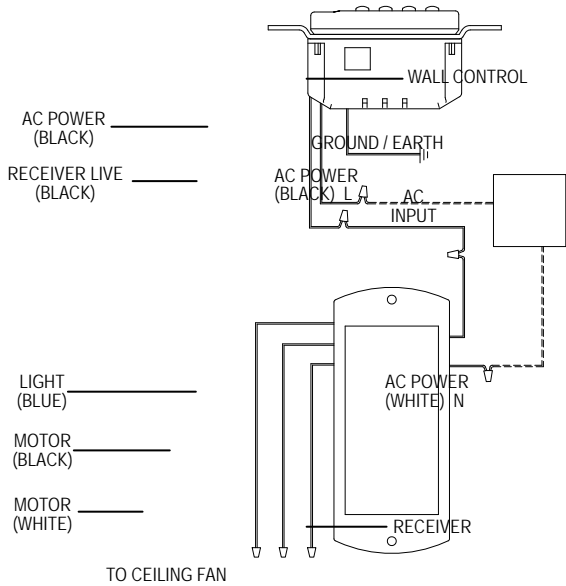

FIG 3
2. Make the electrical connections to the wall control (transmitter) unit as shown in Fig3.